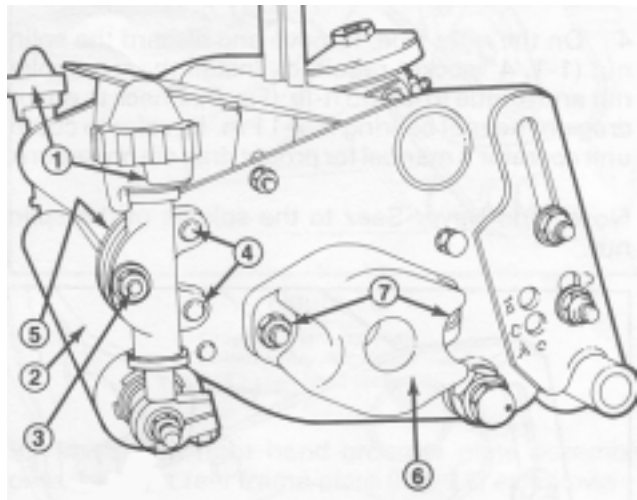
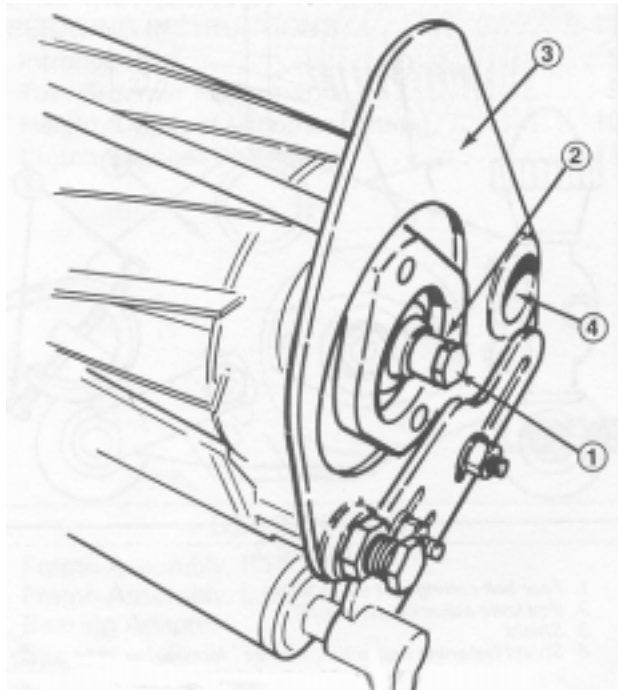

Figure 3
Figure 4
2. Remove the carriage bolts, flat head machine screws and capscrews securing the two front height of cut brackets and remove brackets and front roller (Fig. 3). Discard all parts except the roller.
3. Disassemble two locknuts and remove the left side counterbalance (Fig. 3) and remove the backlap screw (Fig. 4). Discard all parts.
7. On the left side, measure the reel shaft extension diameter (Fig. 4). The diameter, over the length of the shaft, must be between .621" to .626" to allow the clutch adapter to fit over the extension. If the shaft diameter exceeds .626" reduce it by hand rotating the shaft and applying a file or emery cloth. Ensure the internal shaft threads are free of rust and debris.
C. Remove paint and flash from inside the reel frame tube (Fig. 4). Insert the mounting block into the reel frame tube and tighten socket head capscrew enough to hold the assembly in the tube.